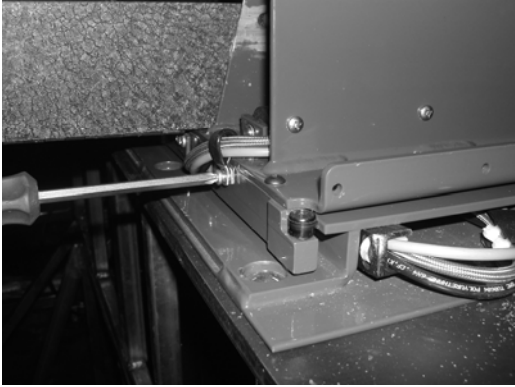

FIGURE 9
7. Refer to **FIGURE 9 and 10**. Remove clamp-attaching screw on front of cam follower rail and those attached inside sliding tower.